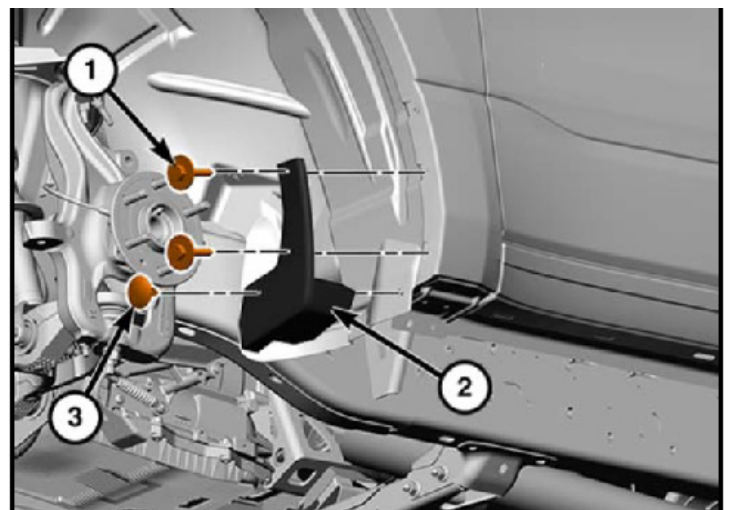

Figure 3
4. Using an 8mm Socket wrench and plastic panel pry tool, remove the two (2) screws and one (1) push pin from the rear splash shield trim. (Figure 3)